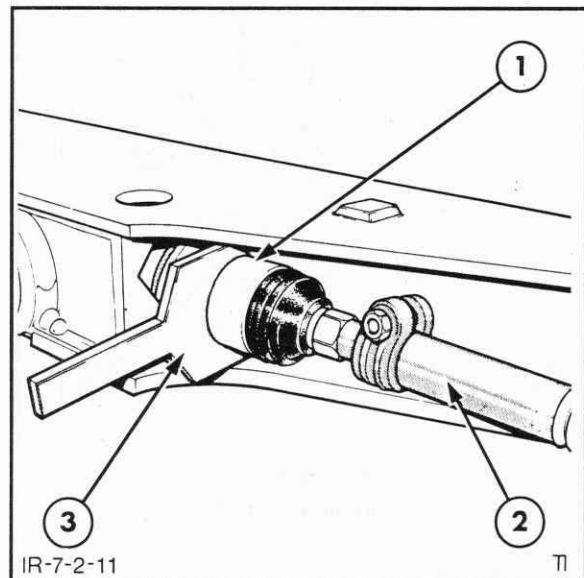

Figure 7-60
2. Fit the locking spanner over the flats on the right-hand track control rod ball joint, Figure 7-60.